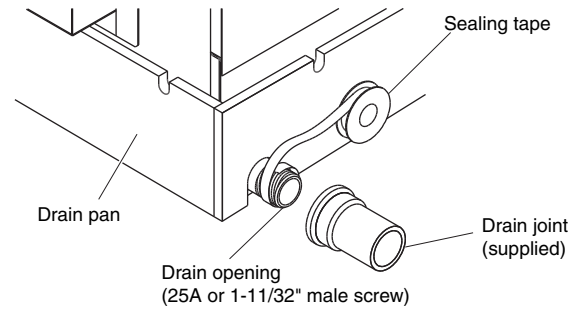
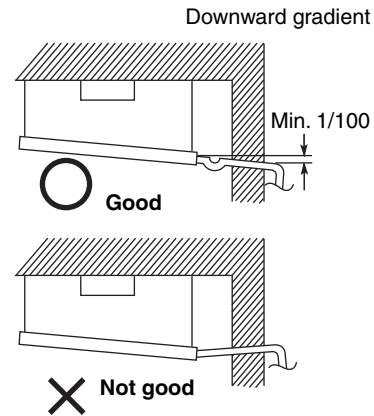

Fig. 3-123
Fig. 3-124
- (1) Prepare standard hard PVC pipe (O.D. 1-1/4") for the drain and use the supplied drain socket to prevent water leaks. The PVC pipe must be purchased separately. When doing this, apply adhesive for the PVC pipe at the connection point.
- (2) If connecting a drain joint (supplied) to the threaded drain port, first wrap the drain port threads with sealing tape, then connect the joint. (Fig. 3-123)
- (3) After connecting the drain pipe securely, wrap insulator (field supply) around the pipe.
- (4) Ensure the drain pipe has a downward gradient (1/100 or more) and prepare traps as indicated in Fig. 3-124.